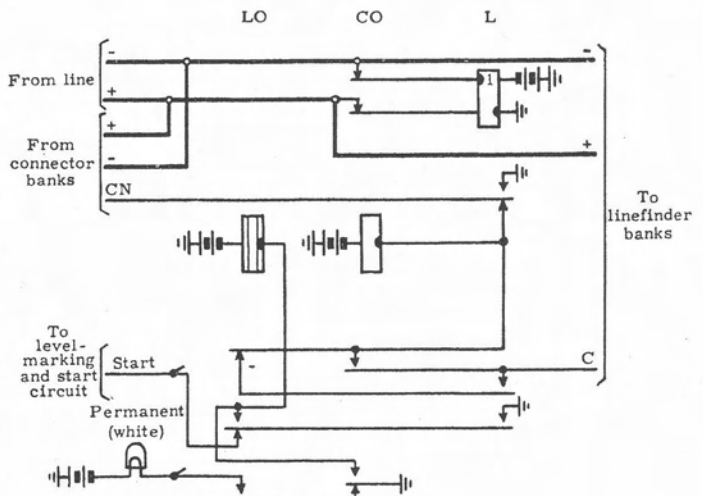
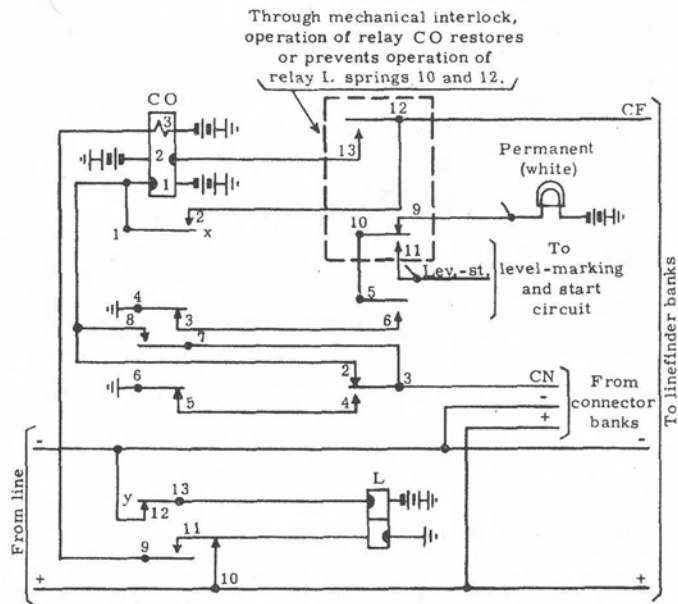

Figure 28. Three-relay lock-out line circuit.
Figure 31. Two-relay mechanical-lockout line circuit. Normal.
6.4 Permanent timing and line lock-out. A "permanent" line is one whose line equipment is operated accidentally (due to a handset improperly placed in its cradle, leakage across the loop, grounded negative line, etc.). The operated line equipment causes a linefinder to connect to the line. As this ties up a linefinder and a first selector needlessly, a line circuit with a "lock-out" feature is sometimes used. If the line does not dial within two to four minutes, the first selector releases the linefinder, and the line equipment "locks out" so as not to seize another finder-selector link. Two common "lock-out" circuits are the three-relay "lock-out" circuit (figure 28) and the two-relay mechanical "lock-out" circuit (figure 31).
6.41 The three-relay lock-out line circuit (figure 28) operates as follows on an outgoing call. When the subscriber lifts his handset, current through his telephone operates the line relay. The line relay grounds connector control lead CN to busy the line to other calls, connects the cut-off relay to the linefinder control lead to mark the calling line's contacts on the linefinder banks, and grounds the level-marking and start lead to start the linefinder. The linefinder, connecting to the line, grounds lead C, operating cut-off relay CO. Relay CO locks, removes the line relay from across the line, and operates lock-out relay LO. Relay LO, being slow to release, remains operated while the line relay operates again from current through